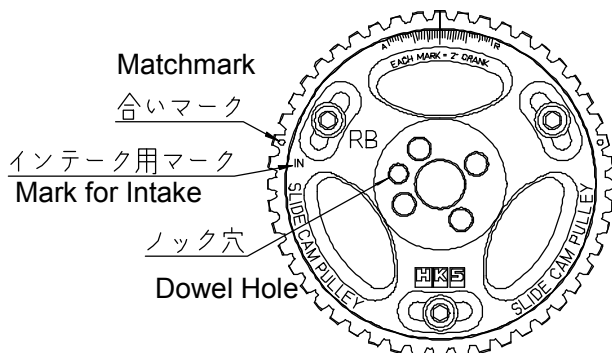
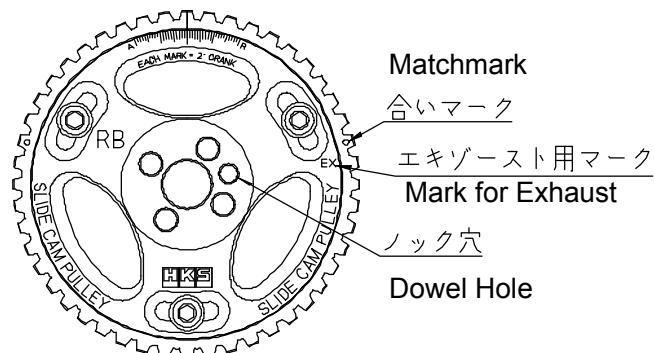

Fig.5 Intake Side
Fig. 6 Exhaust Side
- Make sure install pulleys onto the correct sides. Inner plate shows "IN" for the intake side, and "EX" for the exhaust side. For the match mark for the intake side, see Fig.5. For the exhaust side, see Fig.6.